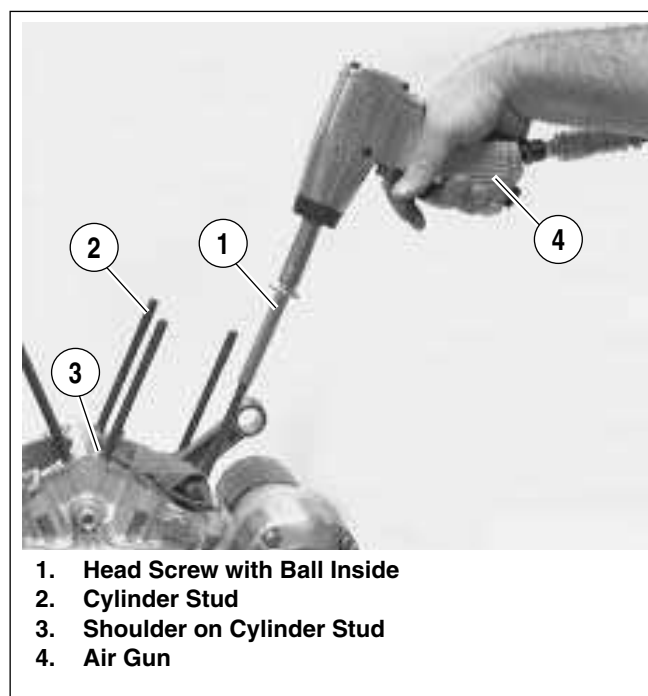

Figure 3-98. Cylinder Studs
14. See Figure 3-98. Install cylinder studs.
- b. Place a steel ball into a head screw (1).
- c. The cylinder studs (2) have a shoulder (3) at the lower end. Place the end of the stud without the shoulder into the head screw.
- d. Install the stud in the crankcase with the shoulder end down. Use an air gun (4) to drive the stud until the shoulder reaches the crankcase.